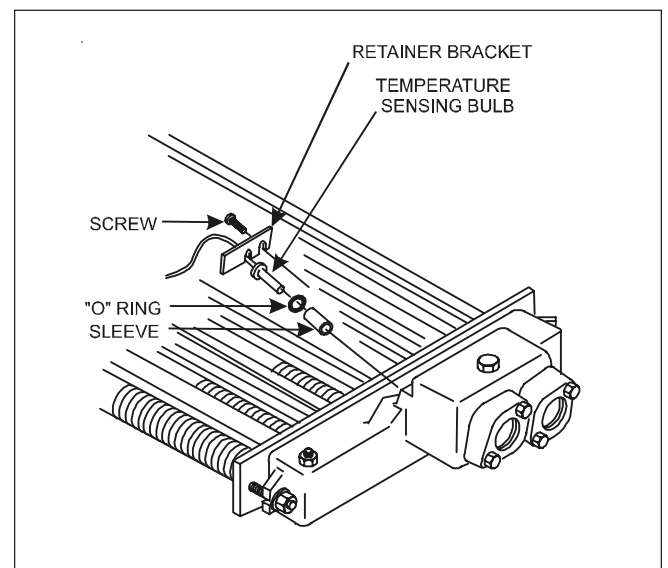
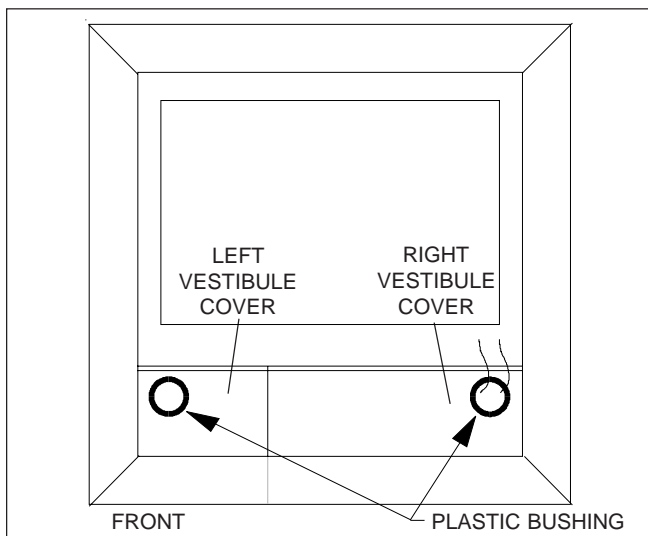

Figure 13. Temperature sensing bulb.
Figure 14. Vestibule covers.
11. Loosen the screw securing the temperature sensing bulb retainer bracket. Slide the retainer bracket off the bulb flange and remove the bulb from the header (see Figure 13). Pull pressure switch tube through the hole in the vestibule cover and into the vestibule (controls compartment), then pull thermostat bulb assembly through same hole (see Figure 14).